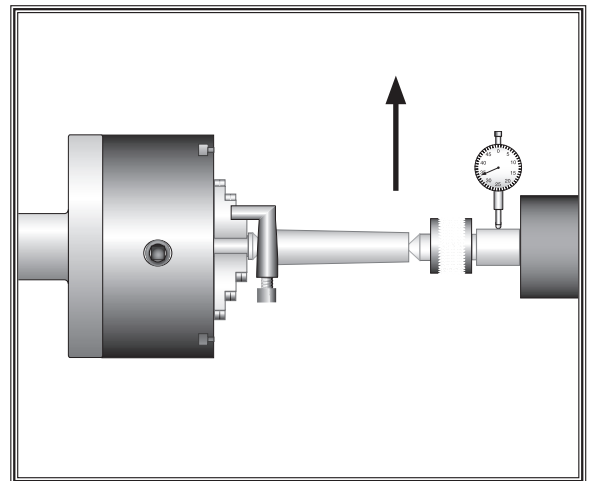

Figure 29. Tailstock adjustment option #2.
- If the stock diameter is thinner at the tailstock end, the tailstock needs to be moved away from you half the distance of the amount of the taper (see **Figure 29**).